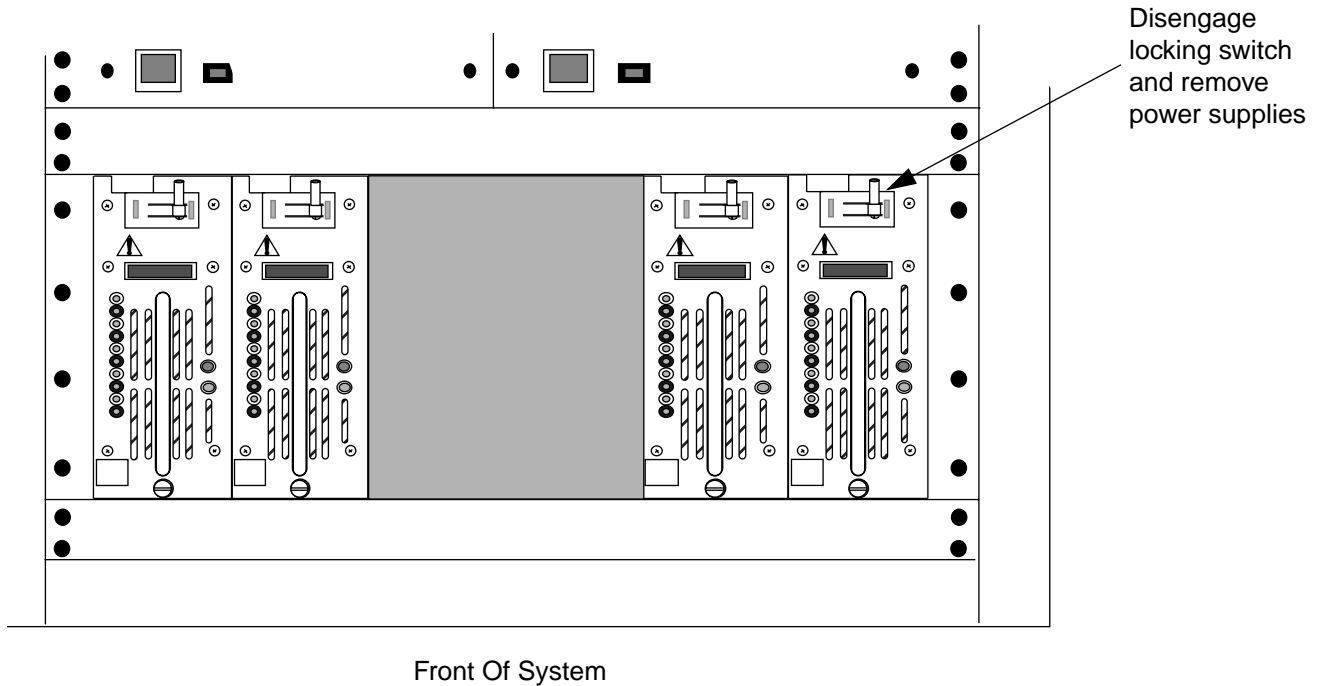

Figure 7: Unlocking And Removing The Power Supplies
6. Remove the screws holding in the power supply bucket shown in Figure 7.
NOTE: Do not remove the bracket underneath the power supply bucket (Figure 7). This bracket is used later in these procedures to guide and support the power supply bucket.